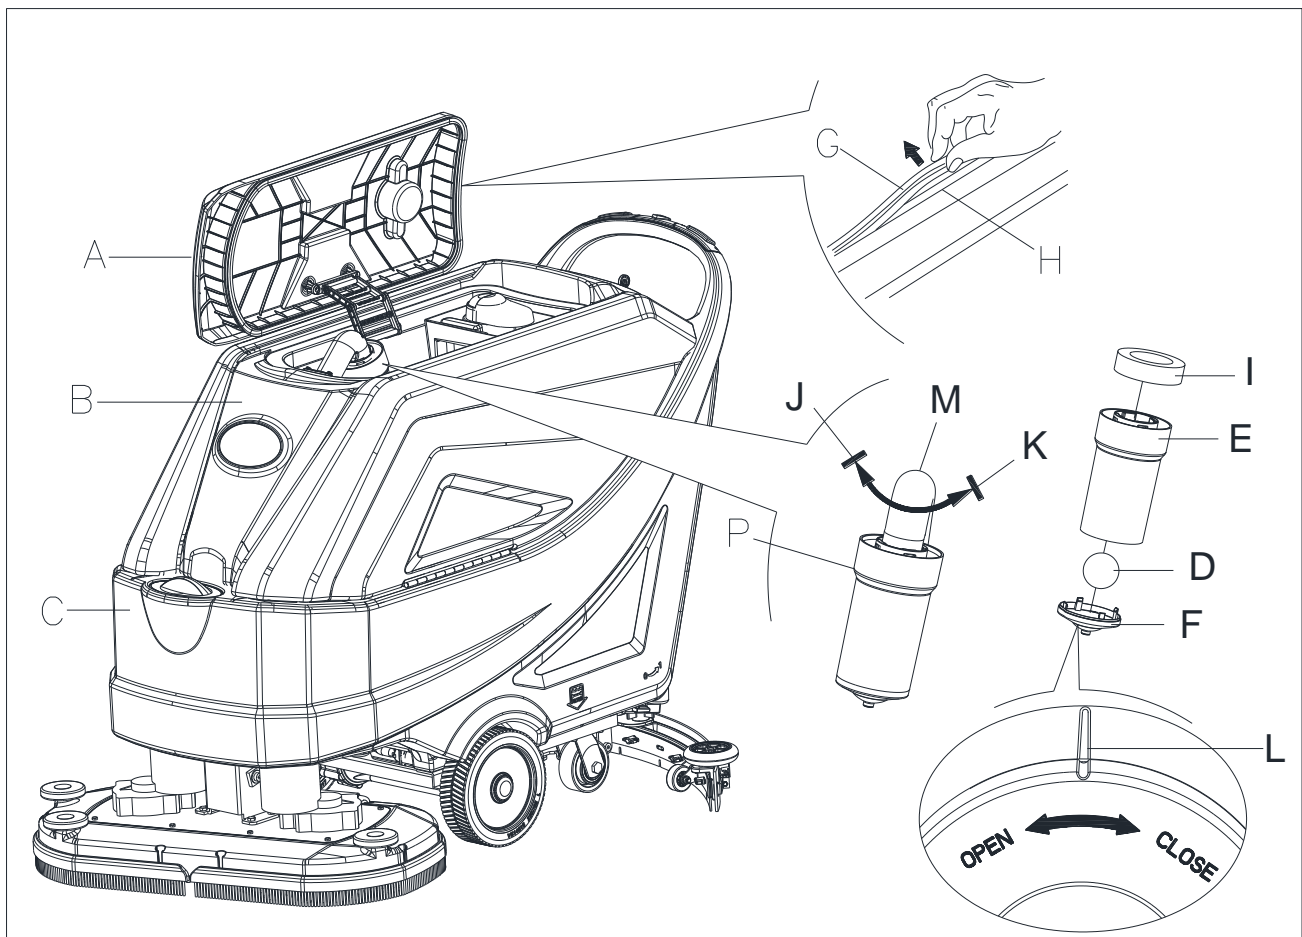

Figure 29
3. Open the recovery tank lid (A, Figure 29) to a 90degree position, and then remove the ball float filter (P) from the tank.
4. Clean the recovery tank lid (A), recovery tank (B), and the float ball filter support frame (E). Empty the recovery tank with the drain hose.
5. If necessary, follow the symbols “OPEN” and “CLOSE” as shown in (Figure 29) to open the bottom cover (F) of float ball filter and then clean the float ball (D), filter support frame (E) and filter sponge (I). After cleaning, fix the float ball (D) into the filter support frame (E) and then align the mark groove (L) of the bottom cap (F) of the float ball filter with the mark groove (L) of the float filter support frame (E). Screw the bottom cap of the float ball filter tight, and fix the filter sponge (I) onto the float filter support frame (E). Finally, connect it to the vacuum standpipe (M).
7. Check whether the contact surface of sealing strip (G) is good condition and sealing is sufficient. If necessary, take the sealing strip out of the groove (H) and replace it. Assembly the new sealing strip as shown in (Figure 29), the joint should be back in the middle area.
8. Close the recovery tank lid (A).